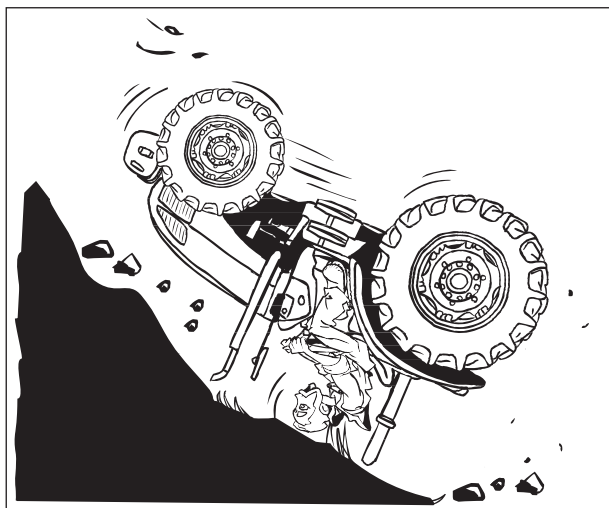
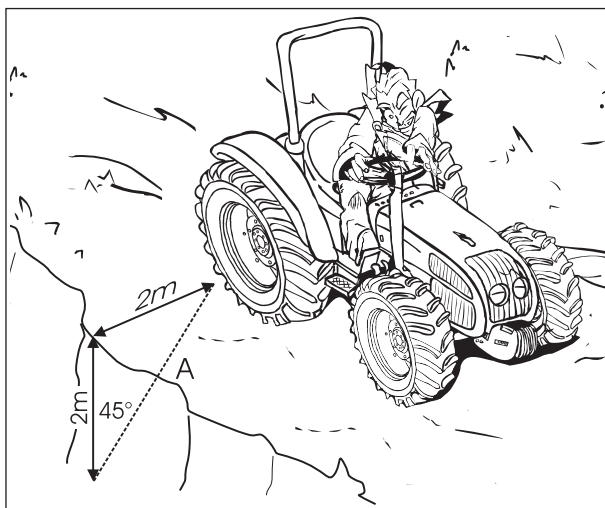

Fig.2-21
Fig.2-22
- Avoid crossing steep slopes if possible. If you must do so, avoid any holes or depressions on the downhill side. Avoid any stumps, rocks, bumps or raised areas on the uphill side. When operating near ditches or banks, always keep your tractor behind the shear line (A, Fig.2-22). Avoid ditches, embankments and river banks which might cave in (Fig.2-21).